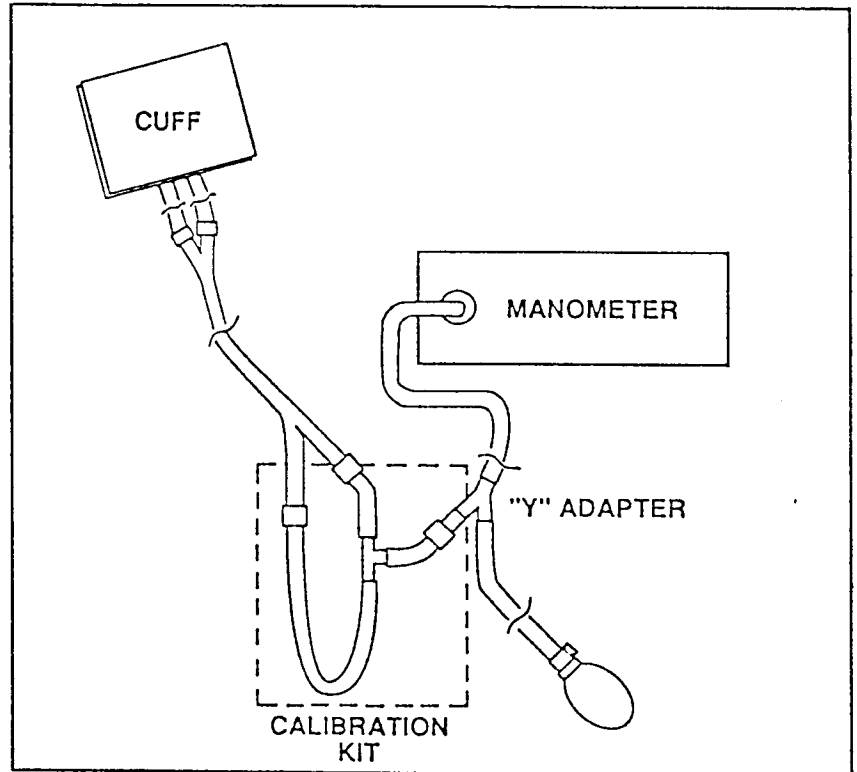

Figure 3-2. Cuff and Hose Leak Test Setup
1. Using the calibration kit (Reorder No. 8886) supplied with the unit, an adult cuff and air hose, and a manometer, set up the equipment as shown in Figure 3-2.